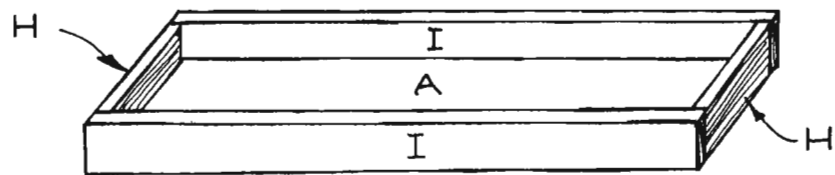

Figure 5
1. First cut two short table trim pieces (H) from 1 x 4 pine, each 9 inches long. Then cut two long table trim pieces (I) from 1 x 4 pine, each 49 inches long.
2. Carefully set the laminated table top (A) upside down on a level surface. Now place one short table trim piece (H) on edge at each end of the table top (A), as shown in *Figure 5*. Use glue and three 1-1/4-inch-long screws to attach each short table trim piece (H) to the table top (A).
3. The long trim pieces (I) extend over the ends of the short trim pieces (H). (See *Figure 5*.) Attach